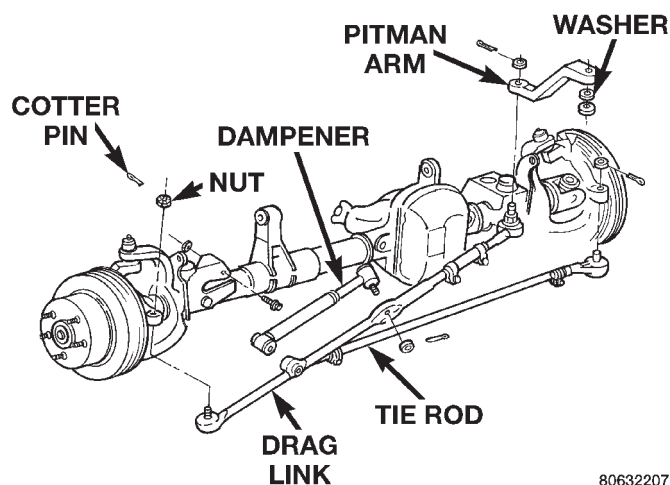

Fig. 1 Steering Linkage
The steering linkage consists of a pitman arm, drag link, tie rod, and steering dampener (Fig. 1). Adjustment sleeves are used on the tie rod and drag link for toe and steering wheel alignment.
- (1) Remove the cotter pins and nuts at the steering knuckle and drag link (Fig. 1).
- (2) Remove the ball studs with puller tool.
- (3) If necessary, loosen the end clamp bolts and remove the tie rod ends from the tube.